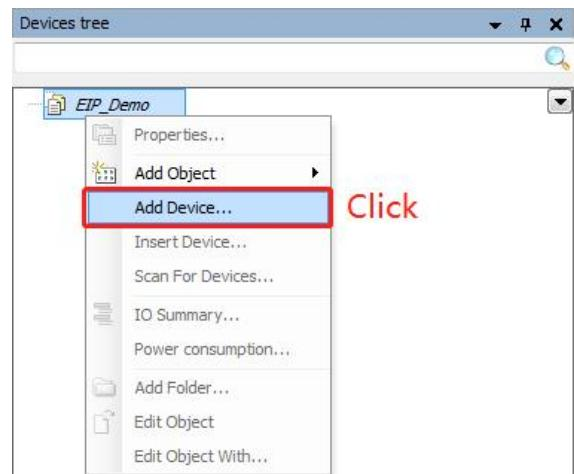

Figure 5-3-6
- As shown in Figure 5-3-6, right-click in the device tree to add a device.